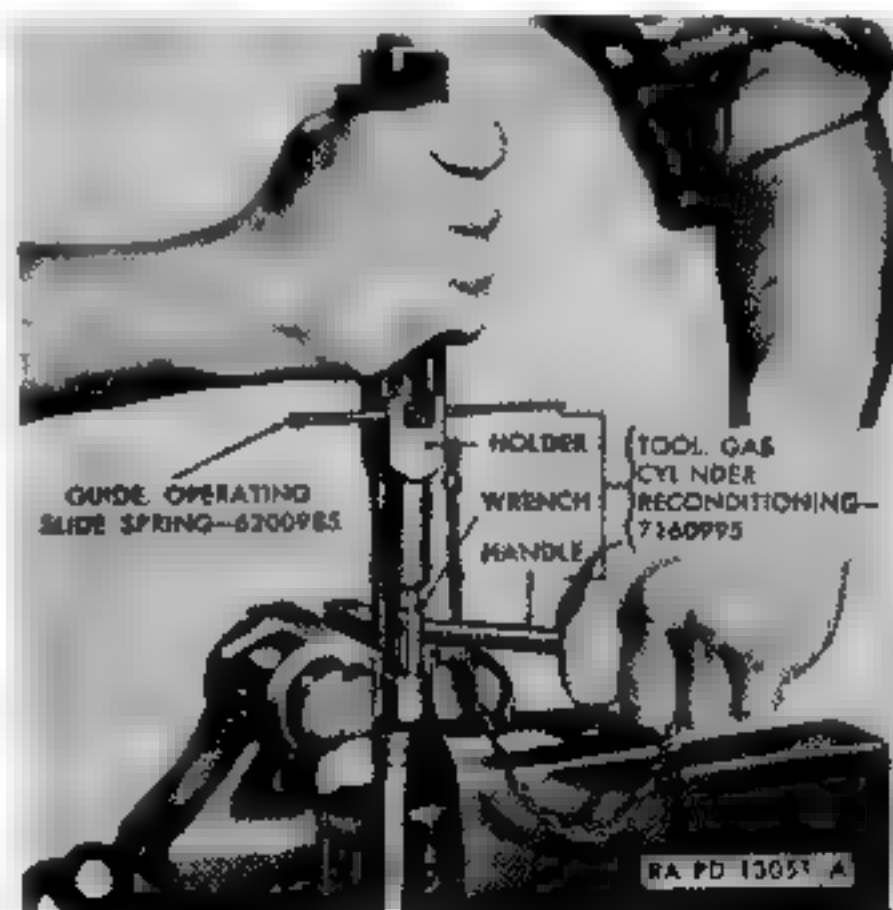

Figure 77. Removing piston nut from gas cylinder.
- (1) The gas piston and piston nut are the only removable parts of the gas cylinder group. To remove the piston, clamp the barrel firmly in a vise with protected jaws, and using gas piston nut removing tool M5 5621065 or gas cylinder reconditioning tool 7160995 (with wrench component), unscrew the piston nut counterclockwise from gas cylinder (Fig. 77). Take care not to burr or twist prongs on nut when